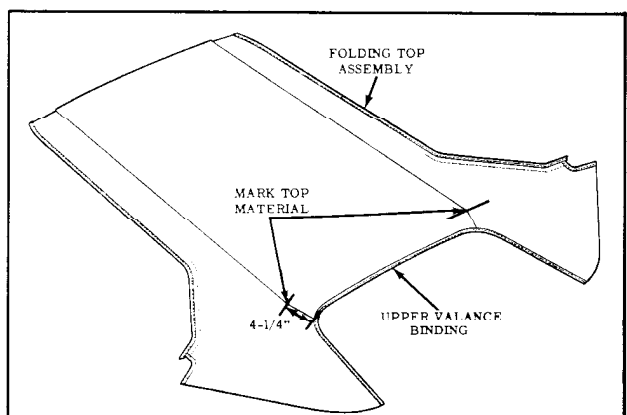

Fig. 15-100 Marking Top Material
25. Using a pencil, mark top material (mark should be approximately 1/2" in length) at deck seam 4-1/4" from edge of top material upper valance binding. (Fig. 15-100)